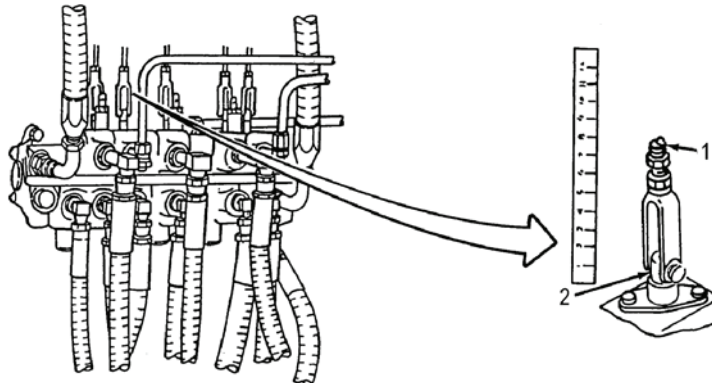

Figure 15. Adjustment of Hydraulic Control and Valve Plunger
- Check operation and adjustment of each hydraulic control and valve plunger (Figure 15, item 2). Plungers should move 9/32 in (7 mm) above or below neutral position when control rod (Figure 15, item 1) is operated. (Bilge pump and SPRUNG/UNSPRUNG plungers only move up).